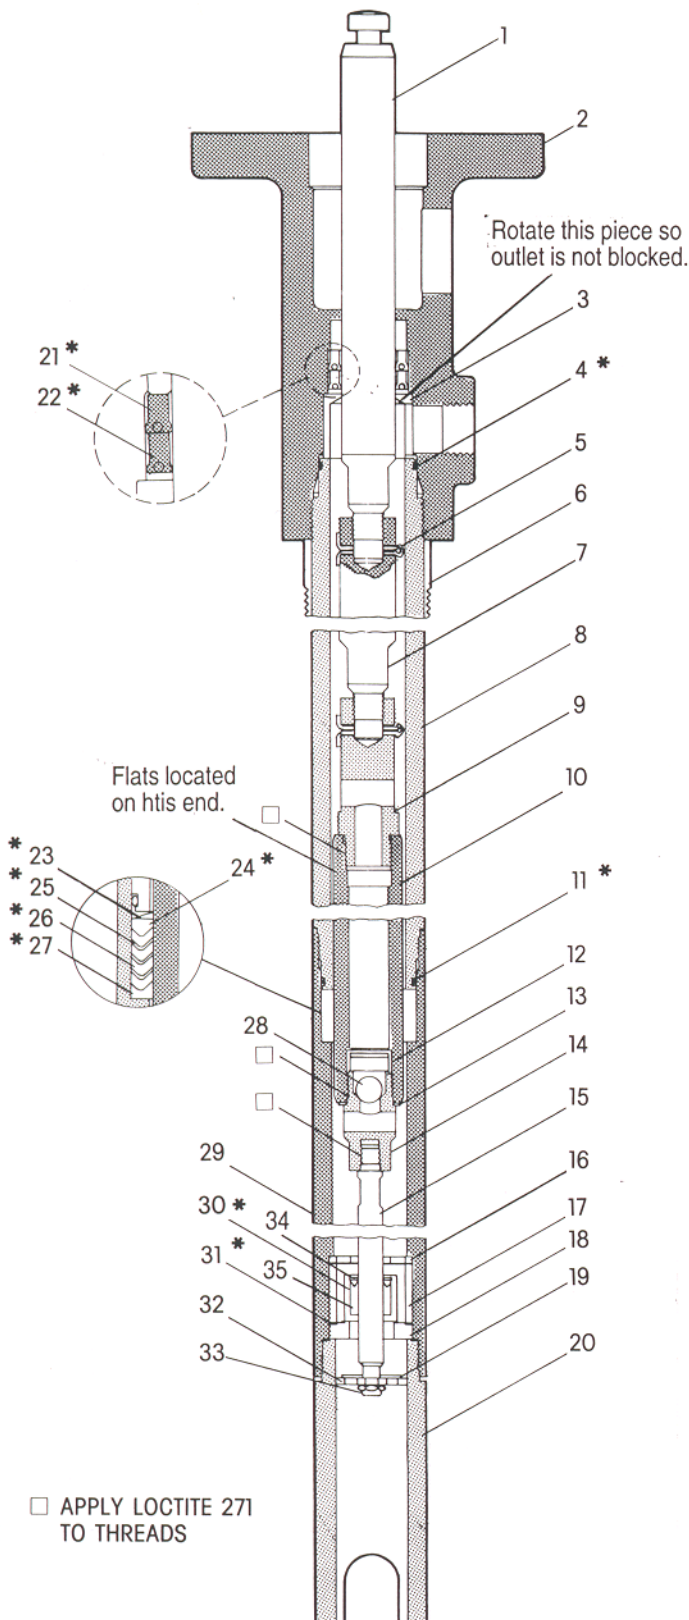

Figure 3
- 637133 for repair of Lower Pump Section (See Fig. 3).
- Order Lower Pump End service parts separately. See Fig. 3.